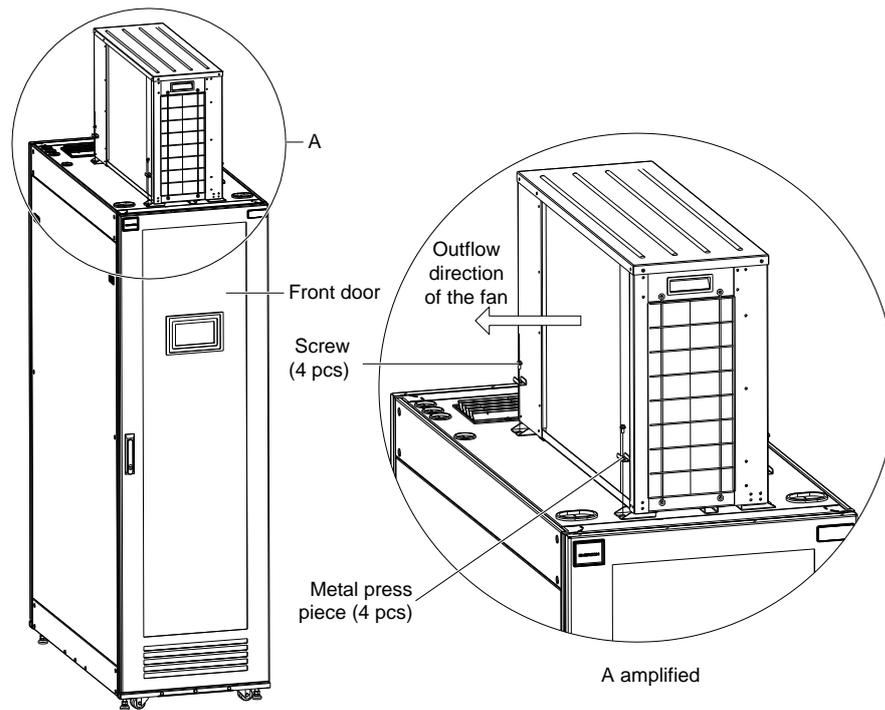

Figure 3-9 Installing outdoor unit on top of the cabinet
- 1) Lift or carry the outdoor unit removed from the cabinet onto top of the cabinet. See Figure 3-9 for the installing direction of AC outdoor unit.
- 2) Adjust the placing position of the AC to align the AC foot stands with the corresponding screw holes on top of the cabinet, and then place metal press pieces on the foot stands, at last, use four screws to fix the AC outdoor unit on the top plate of the cabinet, as shown in Figure 3-9.